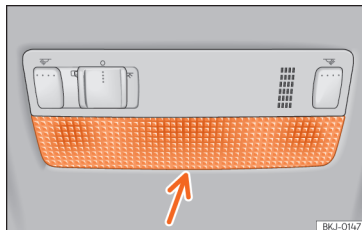

Fig. 166 Front reading light.
- Insert a fine screwdriver between the casing and the glass >>> Fig. 166.